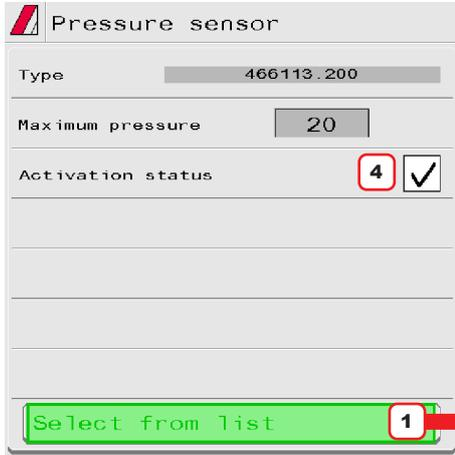

Fig. 43
- The relevant configuration data will be automatically loaded (Fig. 43).